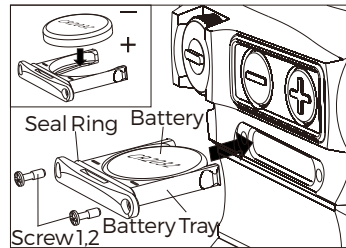

Fig 5-2
2) Battery installation: (Fig 5-2)